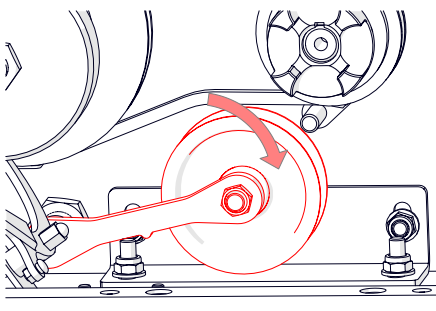

Fig.15G - Adjust the pulley to avoid belt contact in disengaged state.
9. Adjust the pulley so when the drive lever is in the disengaged position, it rests on the support bracket (Fig.15G), avoiding as much contact with the belt as possible.